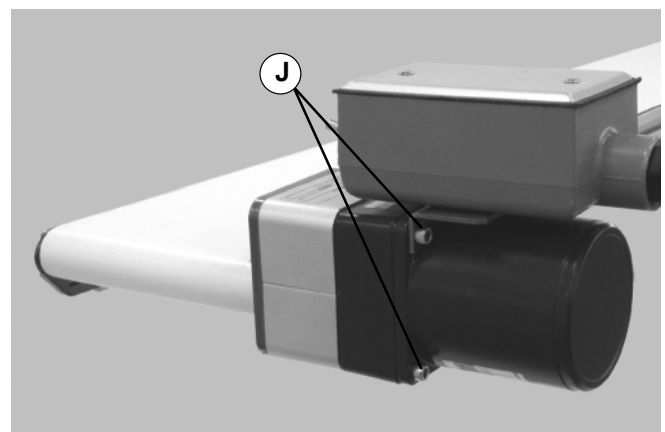

Figure 15
1. Remove (4) motor mounting screws (J of figure 15).